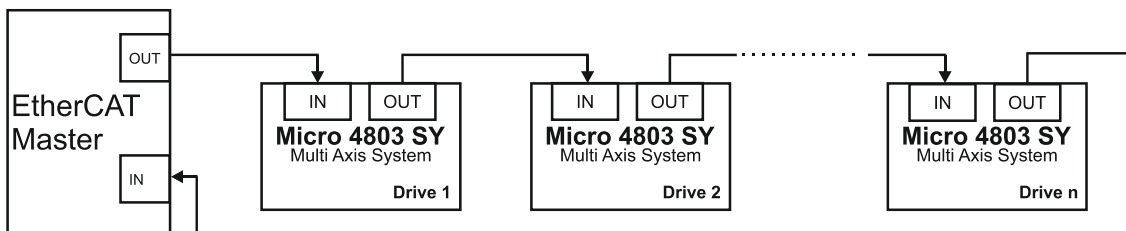

Figure 28 EtherCAT network ring topology
- Ring, when the OUT port of the last drive in the chain is connected back to the master controller, on the 2nd port of the master. This topology consists of the linear topology described above, plus an extra connection between the master, which has two RJ45 ports, to OUT of the last drive. See **Figure 28** for a visual representation of the ring topology.